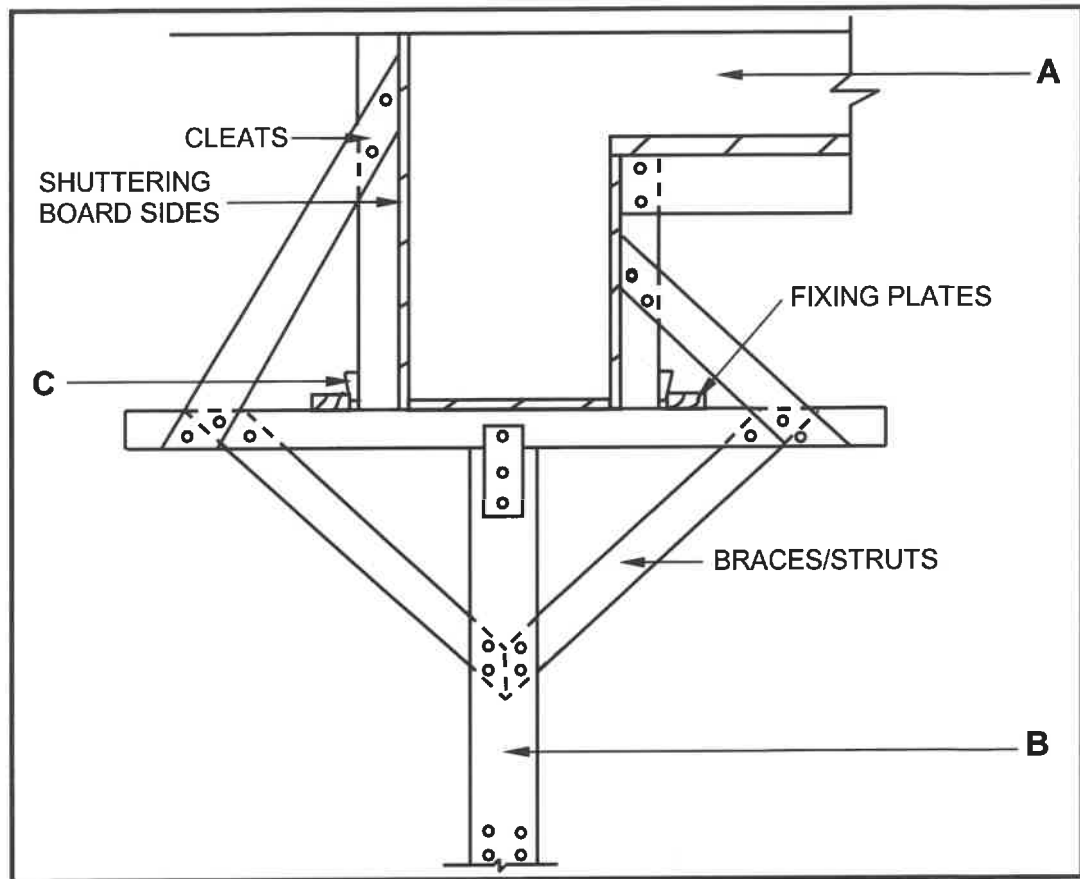

FIGURE 4.8
- Use ANSWER SHEET 4.7 and draw, in good proportion, a vertical sectional view of the shuttering for the excavated trench. Print any TWO labels. (12)
4.8 FIGURE 4.8 below shows formwork used on a construction site.